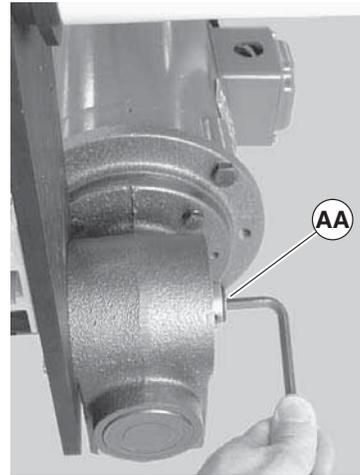

Figure 16
2. Loosen M10 shaft locking screw (Figure 16, item AA).